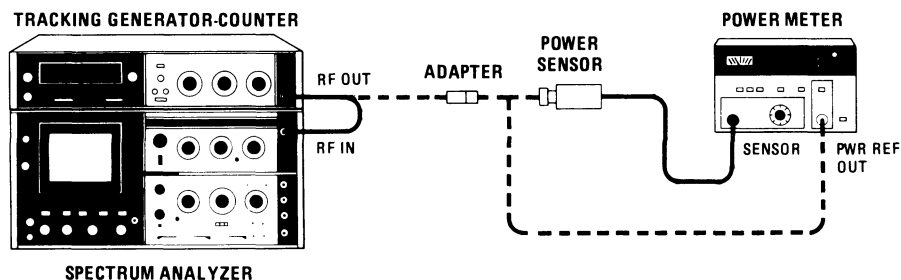

Figure 4-3. Amplitude Accuracy Test Setup
1. Connect the HP 8443A Tracking Generator-Counter RF OUTPUT 50Ω to the spectrum analyzer RF INPUT 50Ω as shown in Figure 4-3. Set the tracking generator-counter and spectrum analyzer controls as follows: